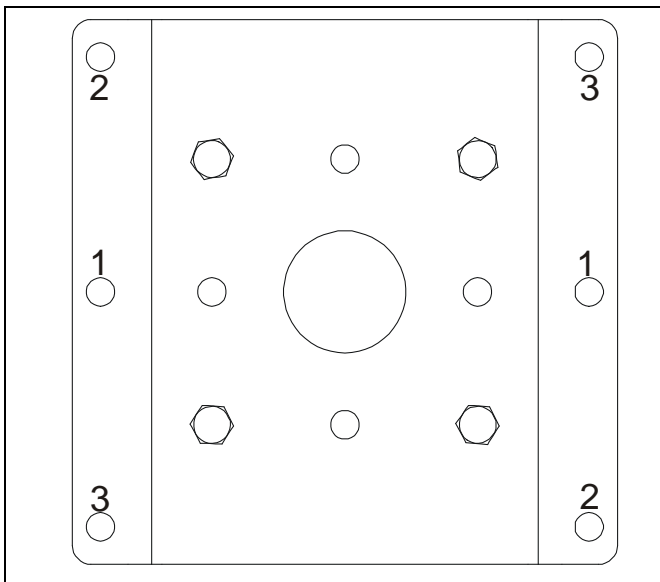

Figure 1
**IMPORTANT ! :** If using only two bolt holes for mounting, either two middle opposing holes (scenario 1) or two diagonally opposing holes (scenarios 2 and 3) must be used. See Figure 1 for the ONLY acceptable two-bolt mounting scenarios.